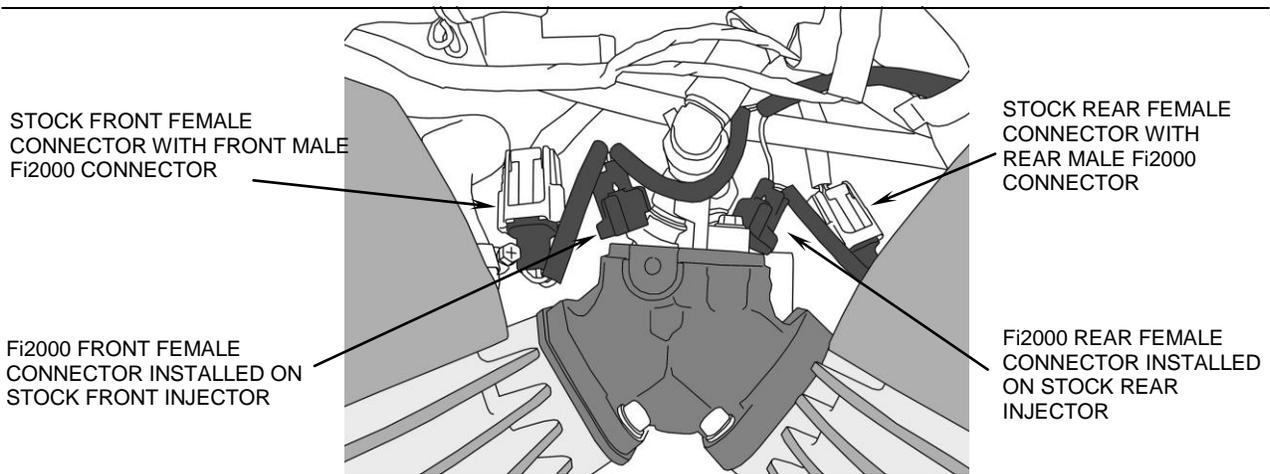

FIGURE 3
5. Note which stock injector connectors belong to front and rear injectors. Disconnect the stock injector connector from the front cylinder and connect the longer female Fi2000 connector to that injector – connect corresponding male Fi2000 connector to stock female connector (removed from front cylinder). See Figure 3. Note: (Angled needle nose pliers will aid in removing stock connectors.)
6. Disconnect the stock injector connector from the rear cylinder and connect the shorter female Fi2000 connector to that injector – connect corresponding male Fi2000 connector to stock female connector (removed from rear cylinder injector), see Figure 3. Make sure all connectors are fully engaged and seated.